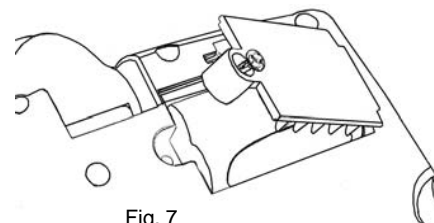

Fig. 7
2. With a #1 Phillips screw driver, remove the screw securing the battery pack compartment cover to the unit and place aside. (Fig. 7)